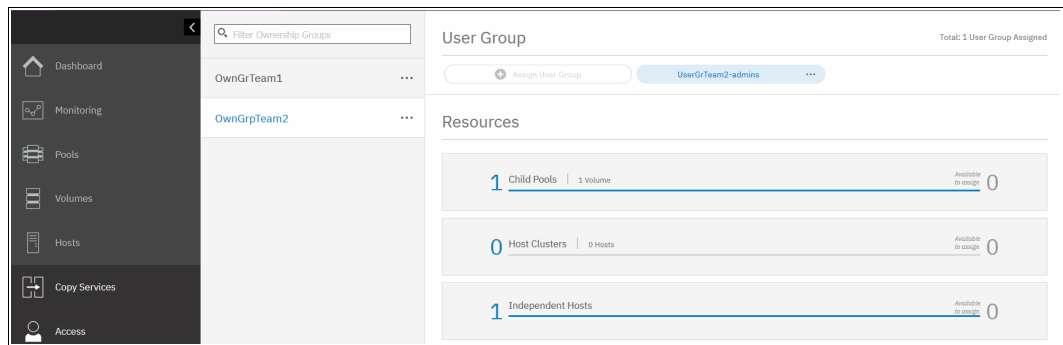

Figure 11-18 Resources of an ownership group
- As shown in Figure 11-18, a volume and a host both belong to an ownership group. As a host and a volume are in a group, host mapping inherits ownership and becomes a part of an ownership group too.